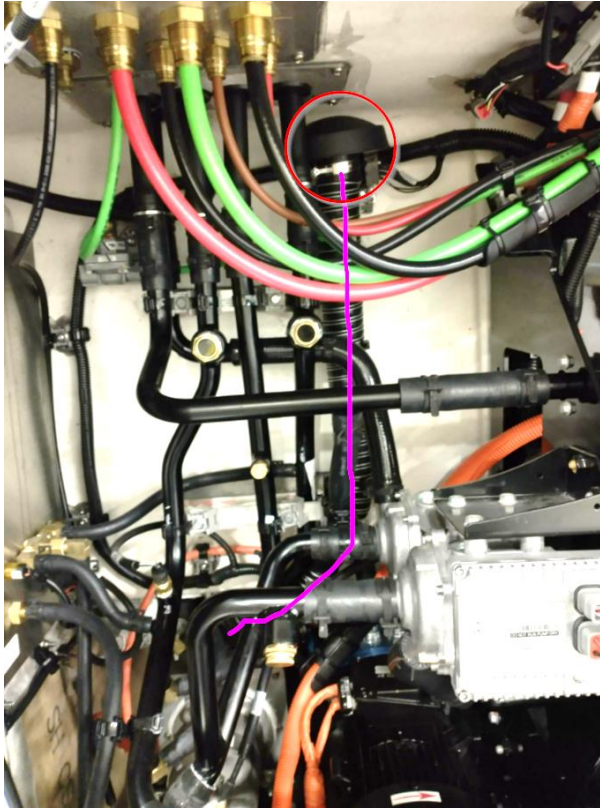
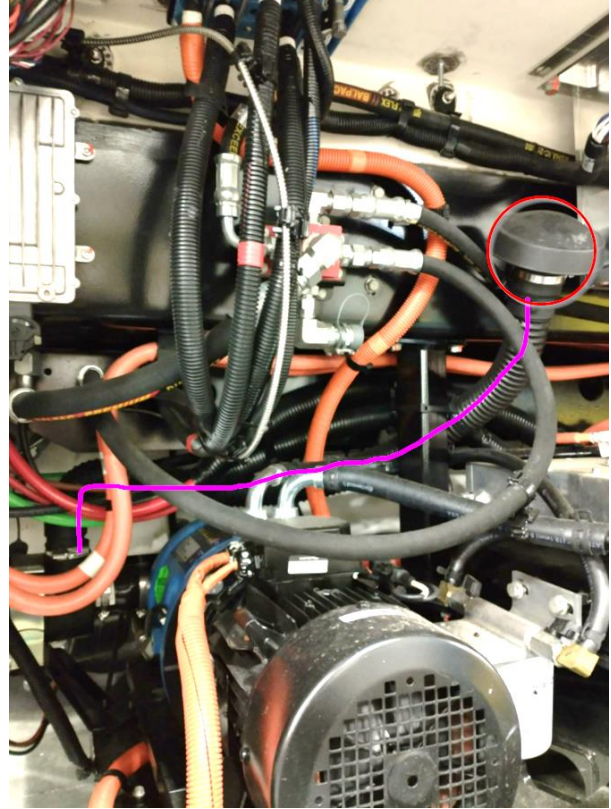

Figure 12: 35' Snorkel Hose Routing
Figure 13: 40' Snorkel Hose Routing
24. Reinstall onto snorkel hose on vehicle with pipe clamp that was previously holding the mushroom cap in place and torque to 5-6 Nm. Ensure the mesh cap is secured well enough such that it will not rub other components. A zip tie securement should be installed as close as possible to the pre-filter. Below photos show routing on 35', Figure 12, and 40' models, Figure 13.